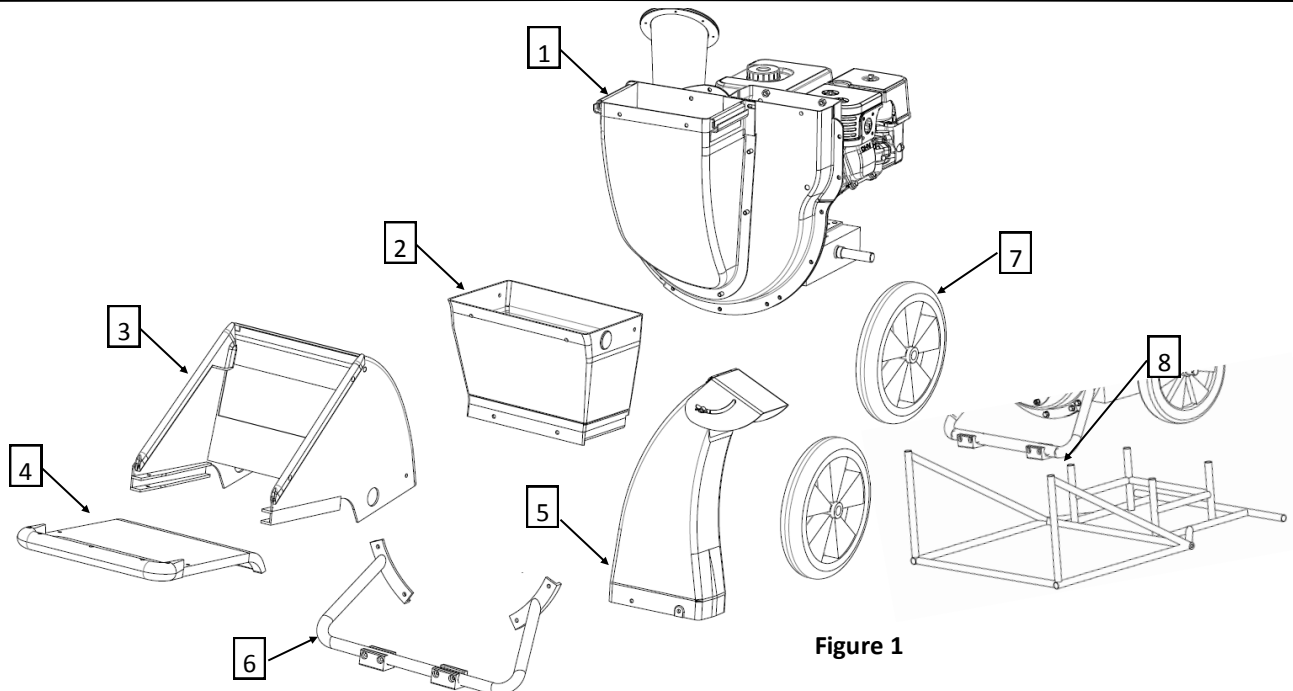

Figure 1
**3. Verify all chipper components are present (Figure 1)**